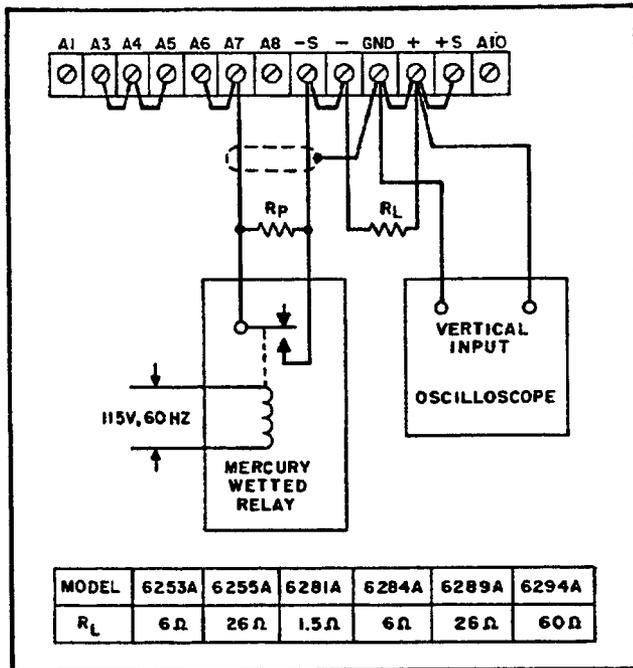

Figure 5-10. Constant Voltage Programming Speed, Test Setup
5-32 **Programming Speed.** This measurement is made by monitoring the output voltage with an oscilloscope while rapidly changing the remote programming resistance. For up-programming, the remote resistance is varied from zero ohms to the value that will produce maximum output voltage; and for down-programming, the remote resistance is varied from the value that will produce maximum output voltage to zero ohms. To check the up-programming speed, make the connections indicated in Figure 5-10; for down-programming, simply remove R_L.
1. Restrap the rear barrier strip as indicated in Figure 5-10. Note that the jumper between +S and A10 is removed. This disconnects the output capacitor C20 to increase the programming speed. A minimum amount of output capacitance (C19) is permanently wired to the output and should not be removed, because the supply could oscillate under certain load conditions. The programming speed increases by a factor of from 10 to 100 when the output capacitor C20 is removed.
2. Connect the relay, oscilloscope, and programming resistor R_p as illustrated in Figure 5-10. Select the value of the programming resistor that will produce maximum output voltage of the supply. This value is obtained by multiplying the programming coefficient (200 ohms/volt, 300 ohms/volt for Model 6294A) by the maximum rated output voltage of the supply.
4. The time (T) required for the output voltage to change from zero volts to maximum rated output or from maximum rated output to zero should be less than 10 milliseconds.